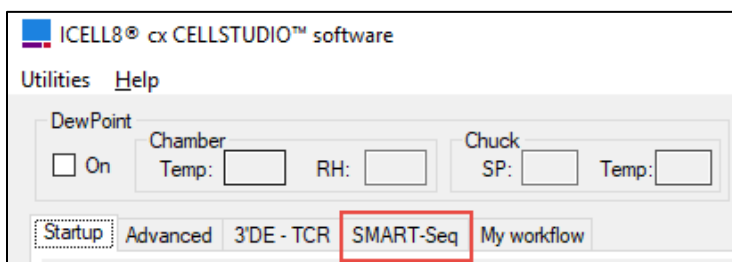

Figure 63. Highlighting the *SMART-Seq* application tab on the top left edge of the application workspace.
2. In the CELLSTUDIO interface, select the desired application from the available tabs on the top, left edge of the main workspace (Figure 63, below). The SMART-Seq ICELL8 cx application will be used to illustrate the basic workflow.